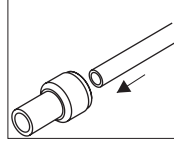

Fig. 4
- 1) Push the flexible tubing 1.5 cm (0.6 in) deep into the quick connector (Fig. 4).